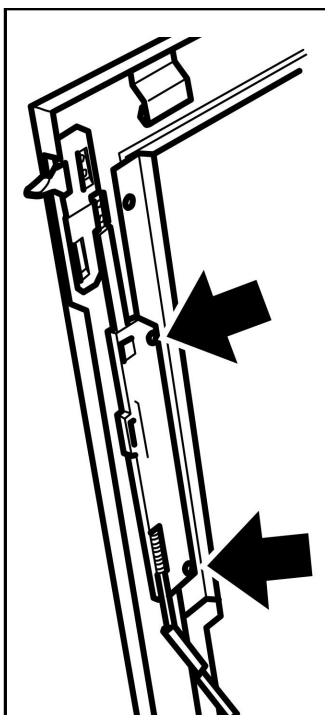

Figure 40. Slider control removal
2. Detach the slider control from the fascia by removing two screws (See figure 40).